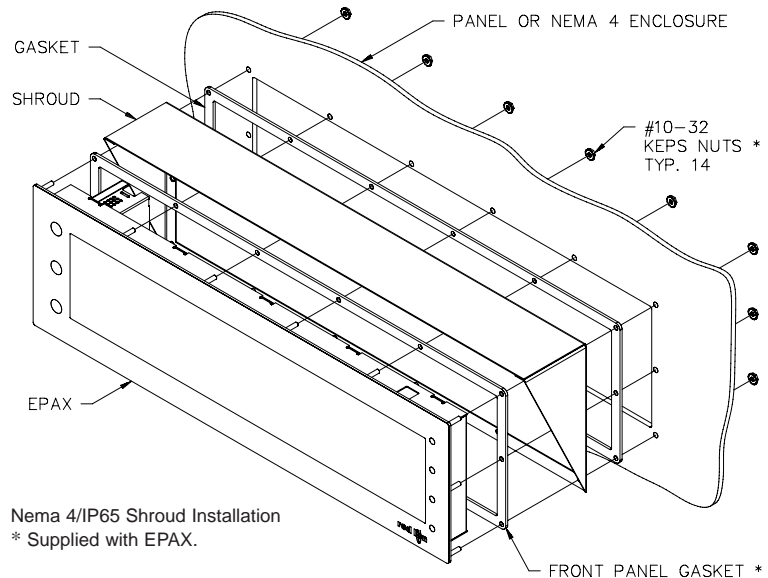

Figure 6
2. Orient the shroud as shown in Figure 6, and place it over the display. The studs of the display should now be protruding through the rear of the shroud.